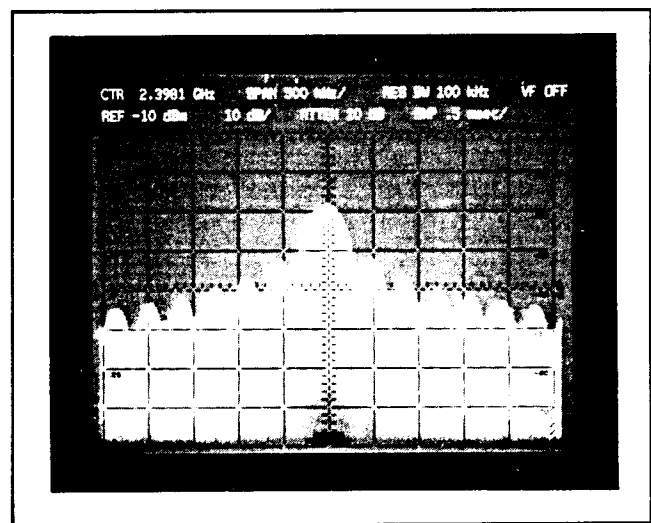
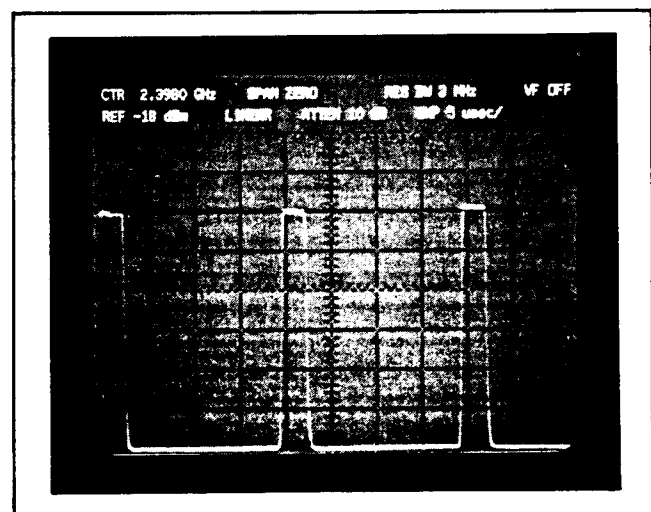

Figure 42. Pulse Spectrum
Figure 43. Demodulated Pulsed RF Signal in ZERO SPAN
For duty cycle of 0.125,  $\alpha_L = -18$  dB. Hence the peak pulse power in Figure 43 is  $-20$  dBm.
A wider resolution bandwidth results when in pulse spectrum mode. The wider resolution bandwidth provides two advantages. First, the signal to noise ratio is increased because the pulse amplitude increases linearly with the resolution bandwidth (BW). The random noise increases proportionally to the square root of the bandwidth ( $\sqrt{\text{BW}}$ ). The only limitation is that the bandwidth should be no greater than about 5 percent of the main lobe width. Secondly, faster sweep times can be used because of the wider resolution bandwidths. The HP 8569B has a 3 MHz resolution BW which enables it to effectively display pulsed RF signals in the pulse mode. The 3 MHz bandwidth, along with fast sweep times, also enables narrow pulse widths to be measured in the time domain. The demodulated pulse signal of Figure 42 is shown in Figure 43.